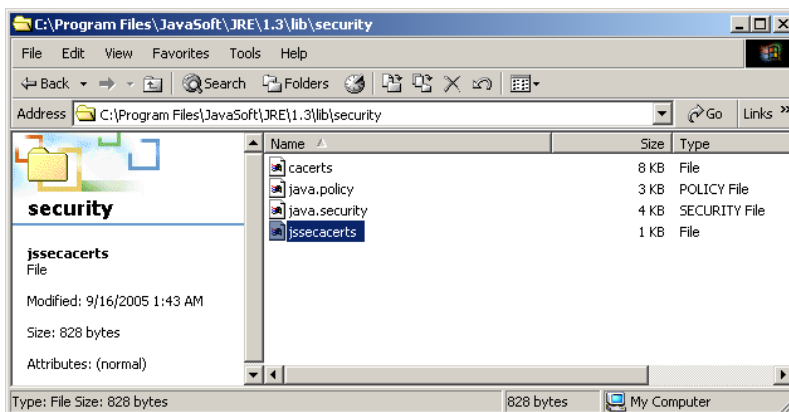

Figure 27. Rename Screen
6. When the download is finished, rename the certificate file *pw-jssecacerts.crt* to *pw-jssecacerts* (see Figure 27).